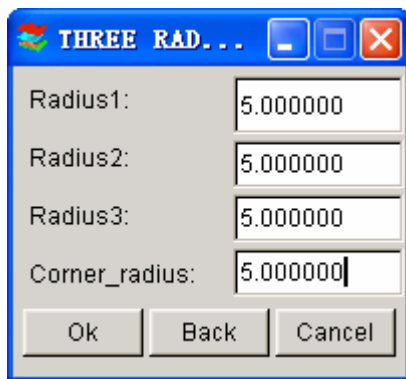

Figure 6.1.20a Element Fillet
3. If **SELECT FEATURE LINE** is clicked, the program will display the SELECT NODE window for the user to select two or three nodes on the feature line. If two nodes are selected on the two-face feature line, the program will display a dialog window as shown in Figure 6.1.19. If three nodes on the three-face feature line are selected, the program will display a dialog window as shown in Figure 6.1.20a.